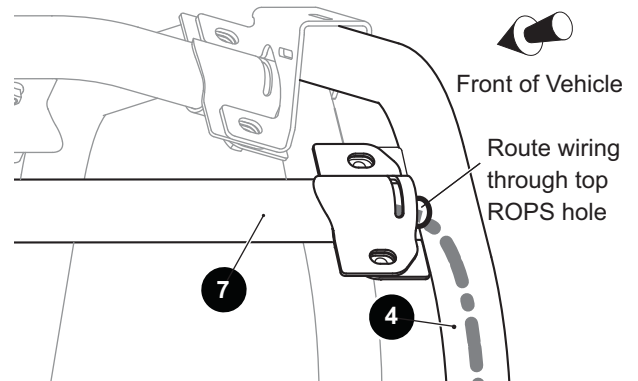

Fig. 5 CHMSL Wiring
- Position the extended cab cross-tube (7) as shown. Route the end of the wiring harness down through the top hole in the passenger side extended cab ROPS tube (4) and down through the vertical ROPS tube (Ref. Fig. 5). Connect the CHMSL harness to the rear harness as shown. Use a cable tie to secure any excess wiring to the vehicle frame.